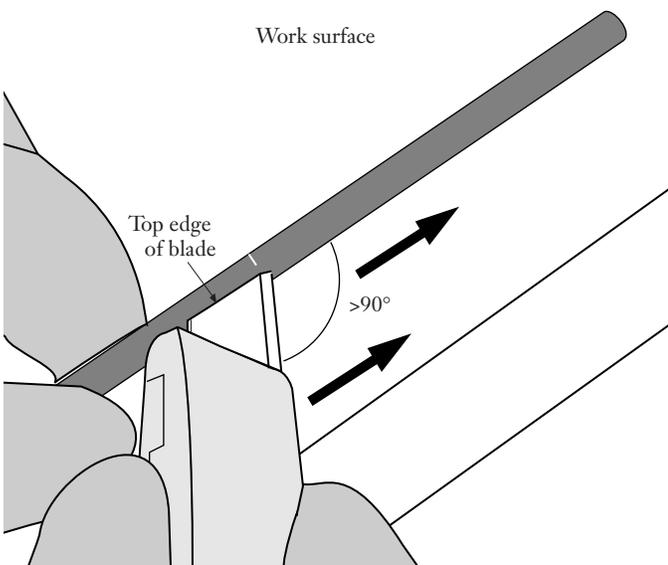

Figure 3
4.2 To slit the end of the cable sheath (Figure 3):
- Place the cable on a work surface. Position the knife so that the top of its blade is nearly parallel to the cable as shown in Figure 3 - this will angle the cutting edge of the blade more than 90° from the cable, which will ease the next step.